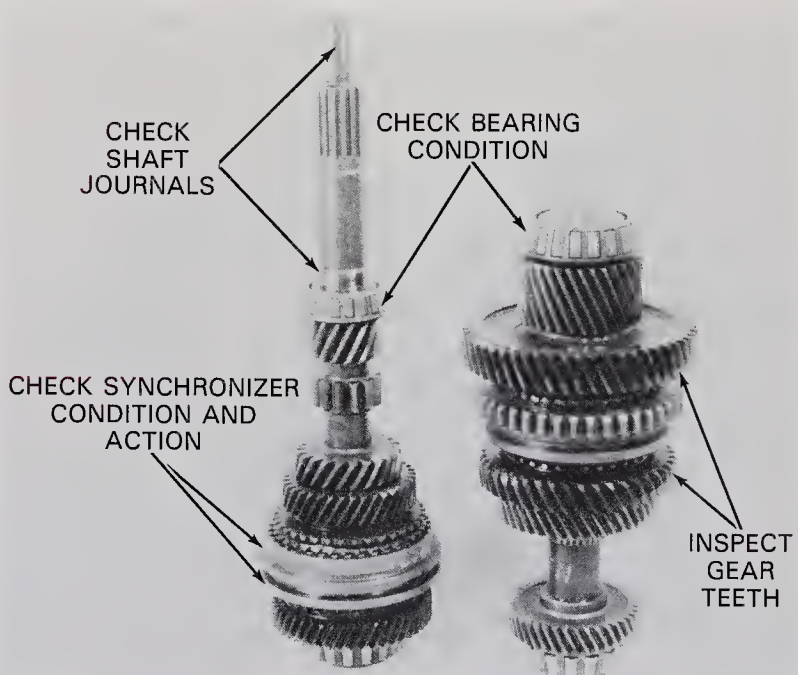

Fig. 61-21. Clean and inspect all components very carefully. If you overlook just one problem, your repair may fail. (Chevrolet)
3. Clean and inspect all parts closely for damage. Replace any part showing wear. See Fig. 61-21.